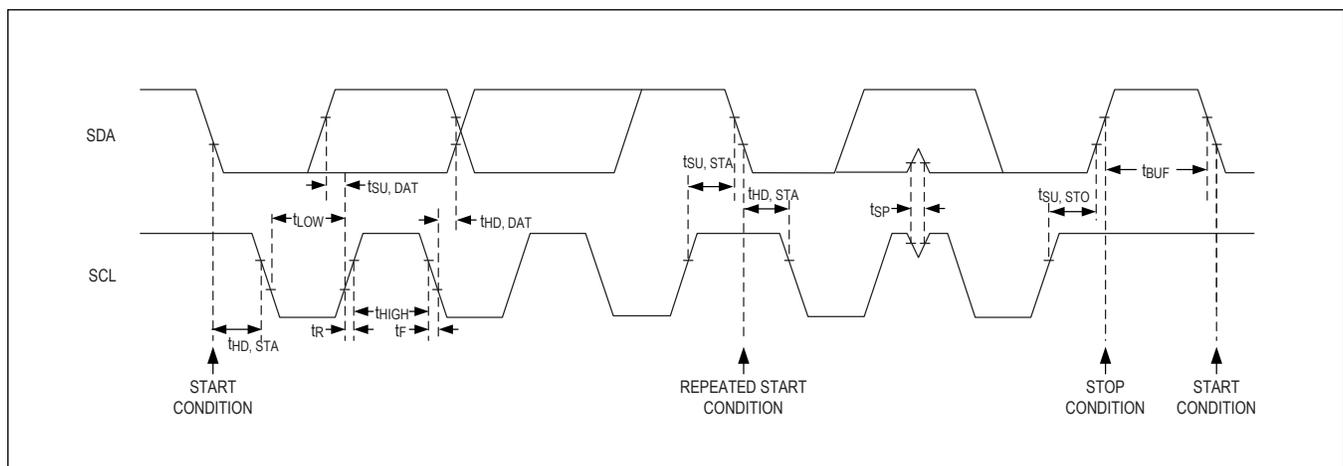

Figure 15. Detailed I2C Timing Diagram
Figure 15 shows the 2-wire interface timing diagram. The master generates SCL and initiates data transfer on the bus. The master device writes data to the MAX86171 by transmitting the proper slave address followed by the register address and then the data word. Each transmit sequence is framed by a START (S) or REPEATED START (Sr) condition and a
The detailed timing diagram of various electrical characteristics is shown in Figure 15.